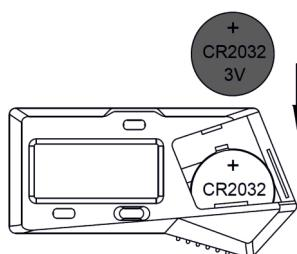

Fig. 2
- » Insert the CR2032 battery so that the positive side (+) faces outward (Fig. 2).
- » For a disc-shaped contact point measuring the depth of grooves inside a hole, gently pull the millimeter scale so the inner measuring surface of the contact point rests on a flat surface. Set the zero value by holding the "SET" button. Then measure depths A1 and A2 (Fig. 2). The thickness of the disc-shaped contact point is x, and the value of A2 equals the reading plus x.